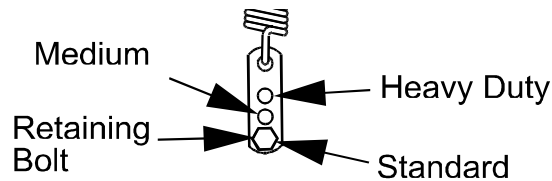

FIGURE 15
- b) For a heavier drive setting, relocate the spring anchor link as shown in Figure 15. The spring anchor links are located under the engine deck on the left and right hand sides.